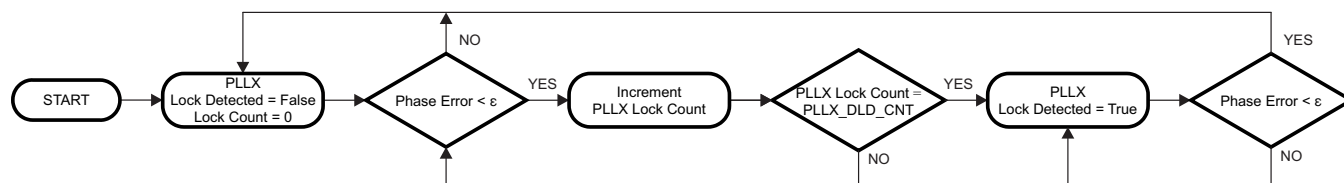

Figure 5-5. Digital Lock Detect Flowchart
Both PLL1 and PLL2 support digital lock detect. Digital lock detect compares the phase between the reference path (R) and the feedback path (N) of the PLL. When the time error, which is phase error, between the two signals is less than a specified window size (ϵ) a lock detect count increments. When the lock detect count reaches a user specified value, PLL1_DLD_CNT or PLL2_DLD_CNT, lock detect is asserted true. Once digital lock detect is true, a single phase comparison outside the specified window will cause digital lock detect to be asserted false. This is illustrated in Figure 5-5.